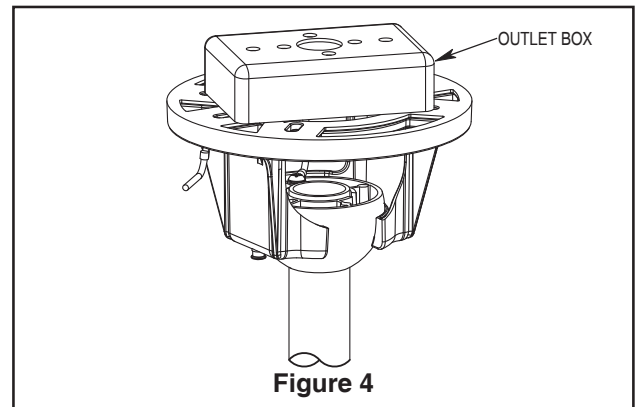

Figure 4
- 2. Carefully lift the fan and seat the downrod/hanger ball assembly on the hanger bracket that was just attached to the outlet box. Be sure the groove in the ball is lined up with tab on the hanger bracket (Figure 4).